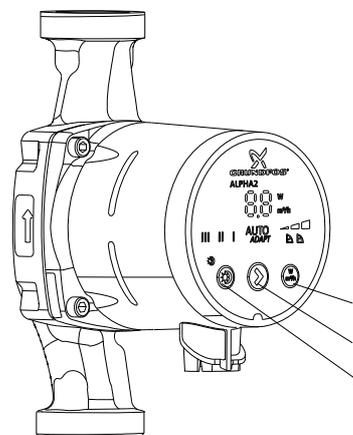

Fig. 10 Position of push-buttons
The control box has an integrated control panel with three push-buttons (pos. 1, 2 and 3) and a 2-digit 7-segment display. See fig. 10.